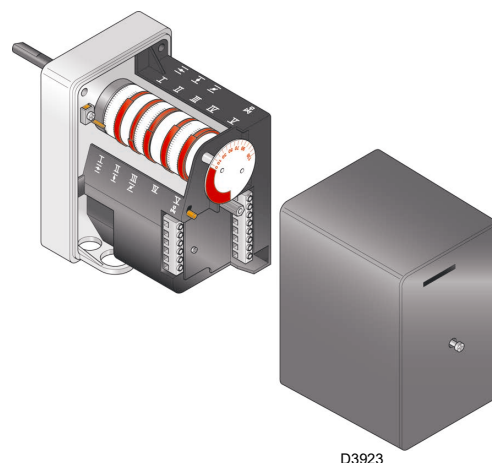

Fig. 29
The servomotor (Fig. 29) provides simultaneous adjustment of the air gate valve, by means of the variable profile cam and the pressure regulator. The servomotor rotates through 130° in 42 seconds.
- 5s: Start of flame control programme. Servomotor starts: 130° rotation to right, until contact is made on cam I (Fig. 29 on page 26).
- 75s: The servomotor rotates towards the left as far as the angle set on cam III (Fig. 29 on page 26) for the MIN output.
- 95s: The air damper and the gas butterfly valve adopt the MIN output position (with cam III - Fig. 29 on page 26 - at 65°).